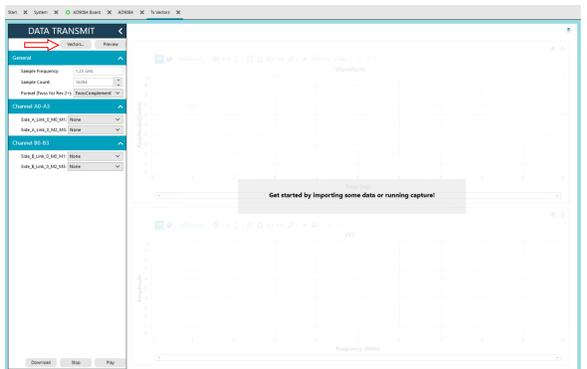

Figure 26. Data Transmit Vectors
2. Under the **DATA TRANSMIT** are, click the **Vectors...** button (see Figure 26).
- b. Change the **Data Rate** box to the same value shown in the **Sample Frequency** box (see Figure 26).